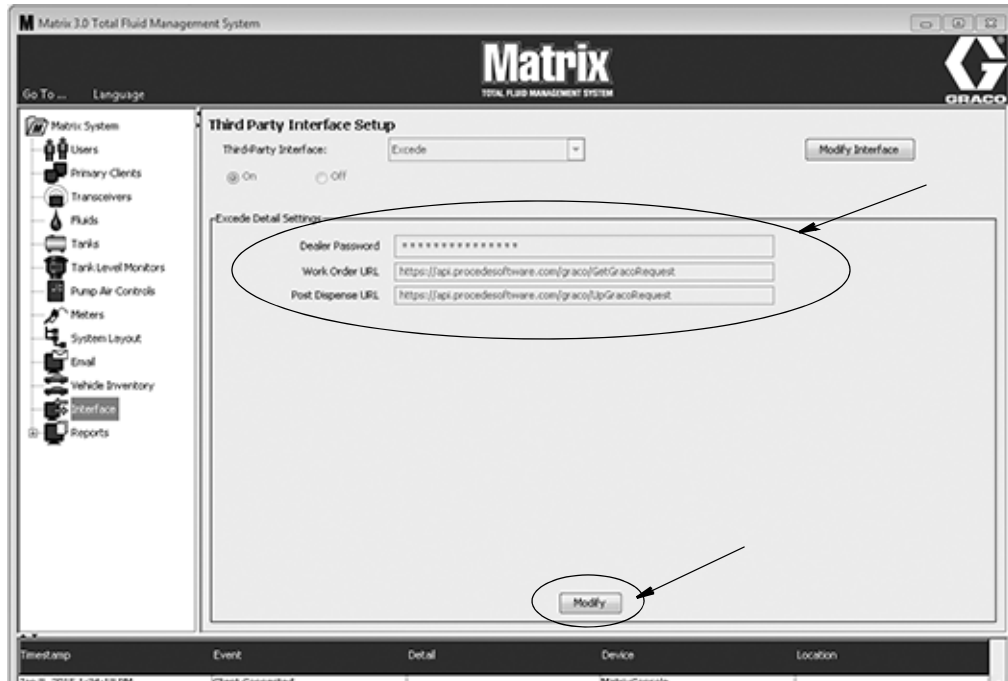

FIG. 184
4. After the Excede Interface is enabled, the Detail settings will populate with the values shown in FIG. 184. These fields can be modified by clicking the Modify button found on the Interface Menu. These values must be provided by Excede during the joint installation/update process.